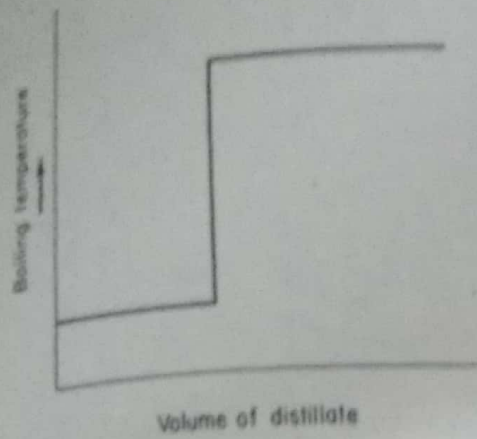
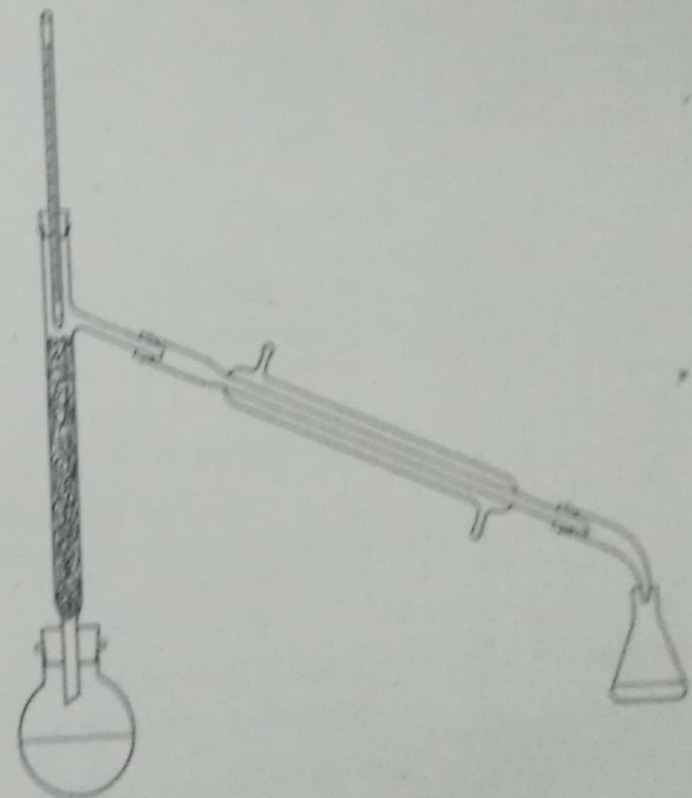
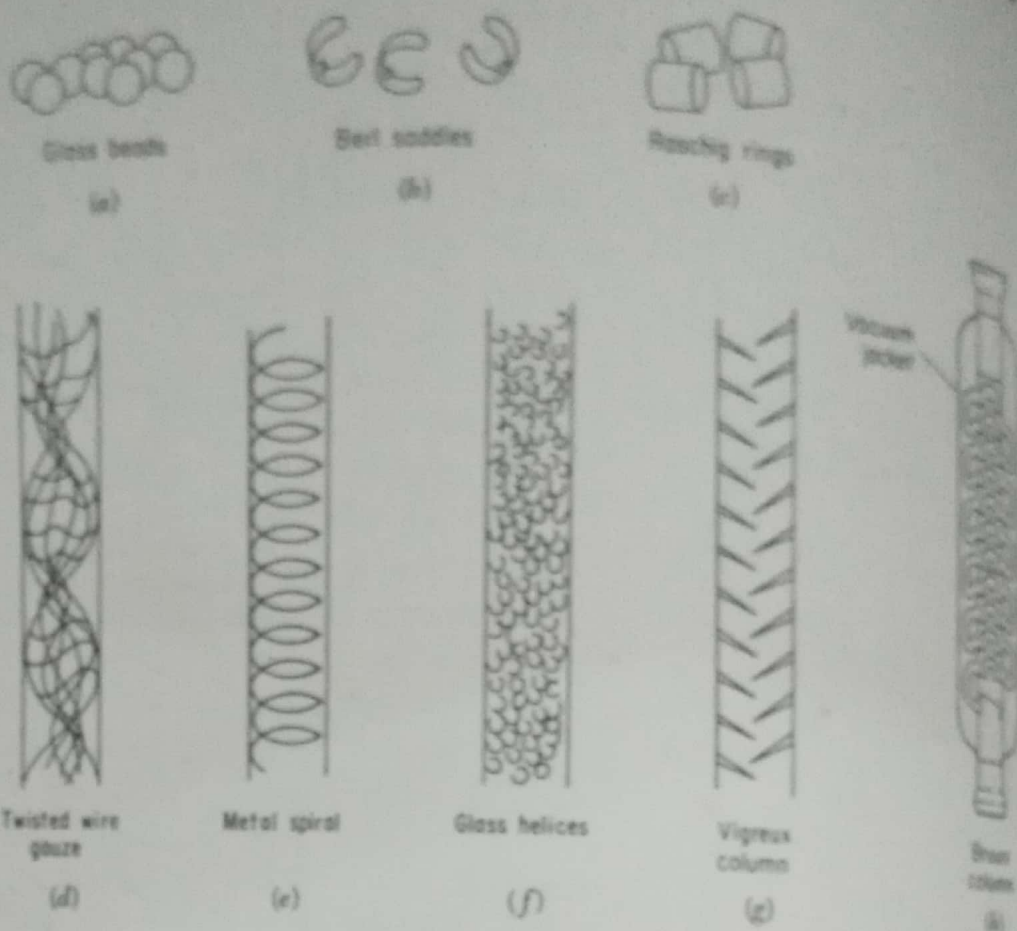

FIGURE 21.8
FIGURE 21.11
FIGURE 21.12
The separation and purification of a mixture of two or more liquids, present in appreciable amounts, into various fractions by distillation is *fractional distillation*. It consists essentially in the systematic redistillation of distillates (fractions of increasing purity). Figures 21.8, 21.9, and 21.10 are distillation curves showing how two liquids separate. Fractionations can be carried out with an ordinary distilling flask; but, where the components do not have widely separated boiling points, it is a very tedious process. A fractionating column (Fig. 21.11) is essentially an apparatus for performing a large number of successive distillations without the necessity of actually collecting and redistilling the various fractions. The glass column is filled with pieces of glass, glass beads, metal screening, or glass helices (Fig. 21.12). Some columns are more efficient than others.
By means of long and efficient distillation columns (see Fig. 21.11), two liquids may be completely separated.
1. Select the type of fractionating column to be used, one that offers a large surface contact inside (see Fig. 21.12).